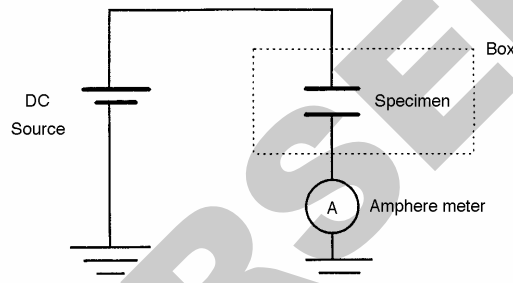

Figure 2
5.1 Setup the test circuit as shown in Figure 2.